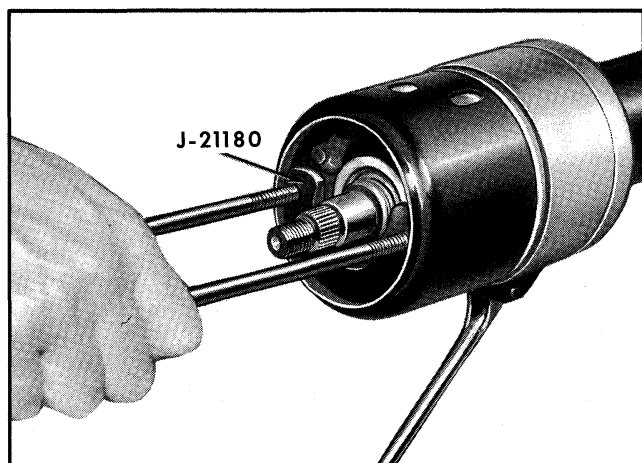

Fig. 9-14 Removing Cover
10. Remove turn signal cover with tool J-21180 (Fig. 9-14).